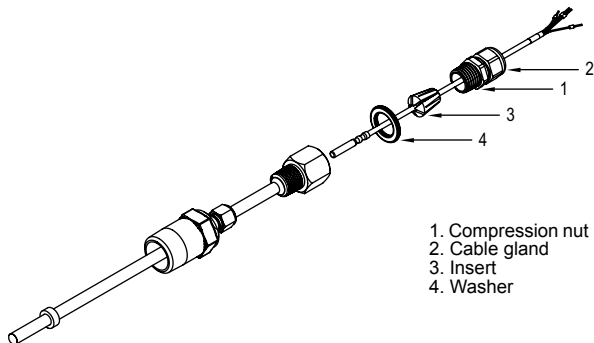

Figure 14: Thermowell assembly with PG gland
Cable Gland (PG 16) Thermowell (refer to Figure 14 below)
1. Remove compression nut (1) by unscrewing from cable gland (2).
2. Remove insert (3) from the cable gland (2).
3. Route the RTD through compression nut (1) and cable gland (2), then into the insert (3) and washer (4).
Note: Ensure insert (3) is oriented correctly, as shown in Figure 14 below.
6. Screw the cable gland (2) into the thermowell.
7. Tighten the compression nut (1) onto the cable gland (2) to 30 in/lbs.